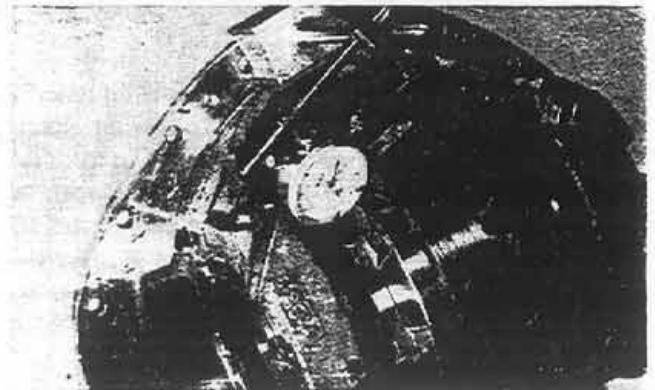

Figure 24:
Step 39. With the use of a dial indicator as shown (Fig. 24), check the back face of the ring gear. While rotating the ring gear assembly at least one full turn, check the face runout. The total ring gear runout must not exceed .003". If the runout is excessive, remove the assembly and check for burrs or debris between the ring gear and the case and recheck the torquing procedure.